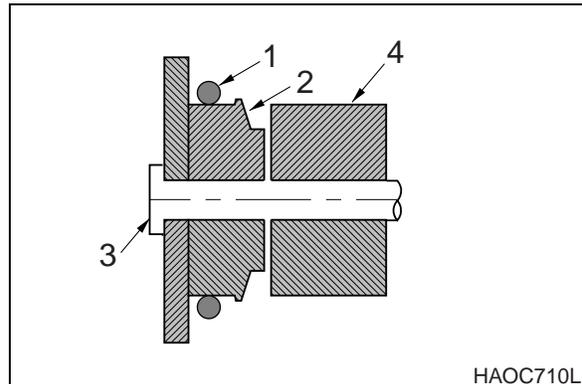

Figure 95
2. Roll old O-ring (1, Figure 95) onto boss (2) around bucket pin (3). Remove bucket pin and move arm or bucket link (4) out of way.
4. Realign arm or link with bucket pin hole and insert bucket pin (3, Figure 95).